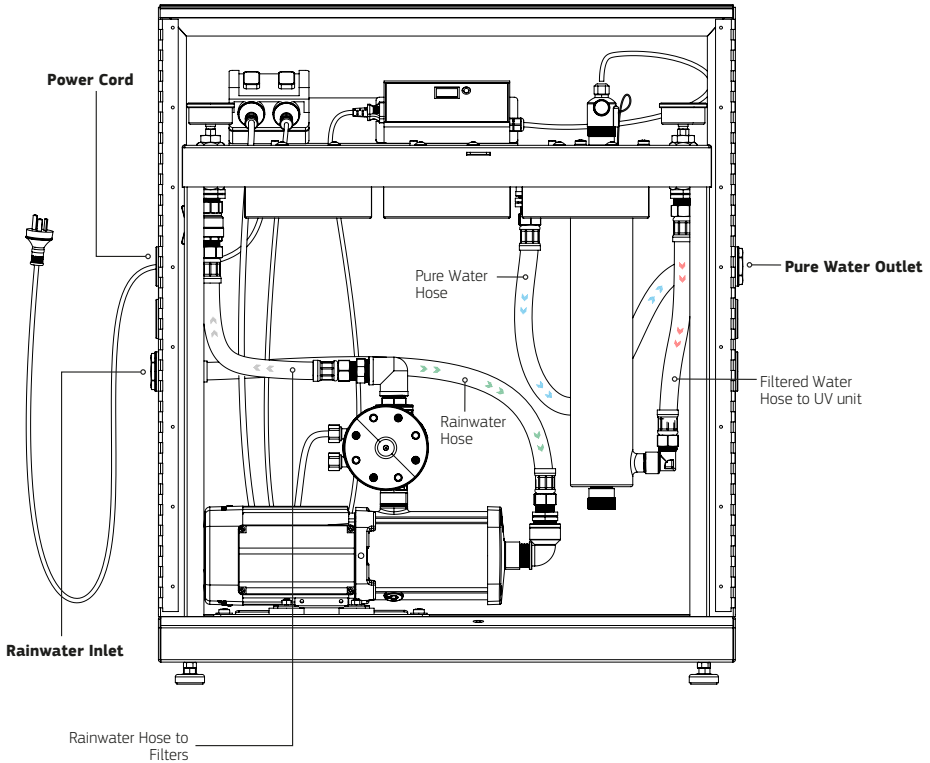

Fig 5. As Supplied Plumbing Connections - P1 Models
Choose a location with a structurally appropriate position. Allow a chamber length space above the unit for removal of the lamp and sleeve from the Radfire UV system during servicing and allowance for the swing doors to open (see Fig. 5).
2. Locate a suitable position for the HybridPlus system, remembering to allow 380 mm either side of the unit, 260 mm in front of the unit for the swing doors and 700 mm clearance above the unit for lamp changes (see Fig 5). A power outlet is required.